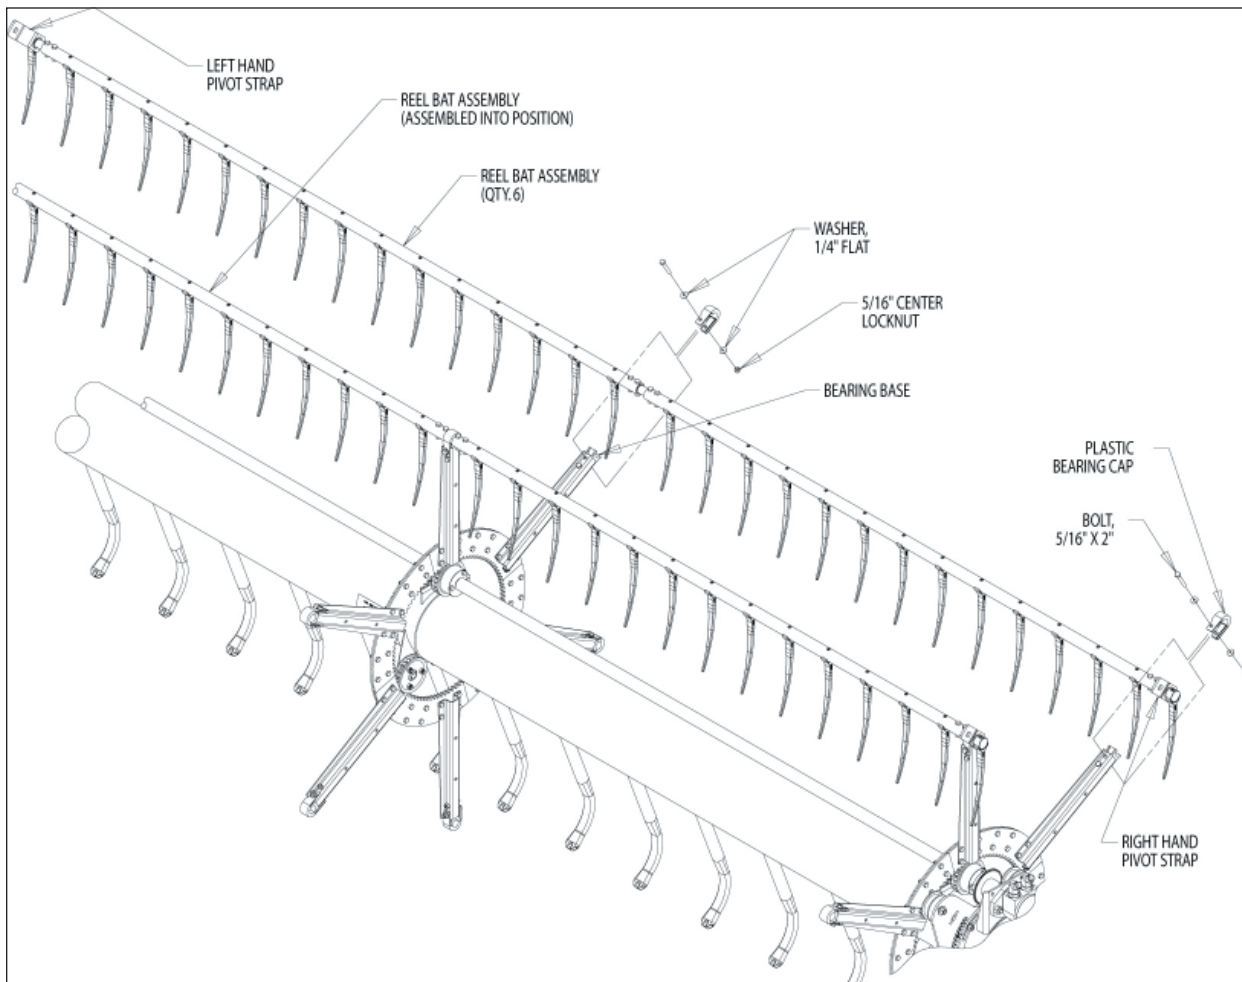

Figure 31, Reel bat installation
- A. Determine the correct orientation of the reel bat. The RH and LH pivot straps point to the rear of the Air Reel (Figure 31).